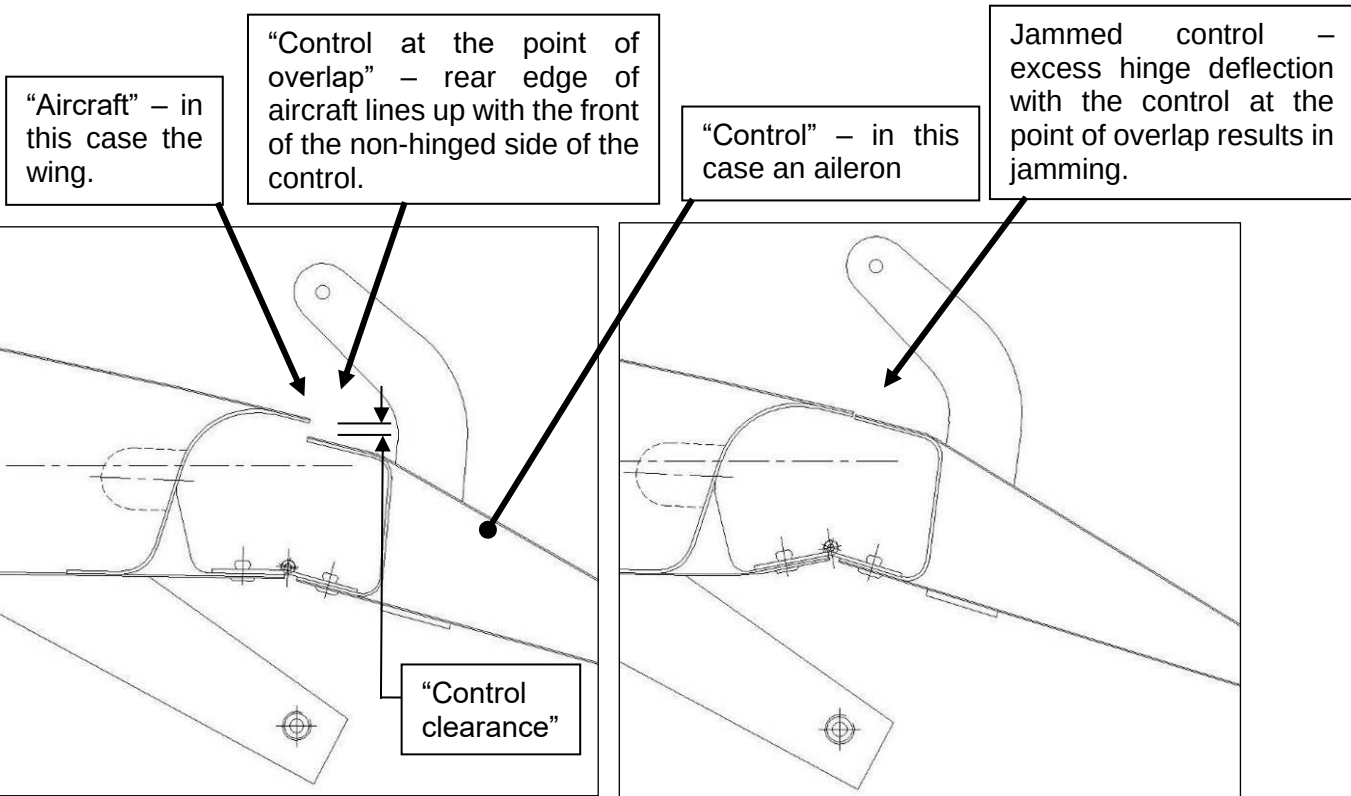

Figure 19 – Normal and Jammed Control Illustration (all J-Series)
- In Figure 19 several terms are defined. This is provided to clarify the statements given in the remainder of this inspection.
- **Aircraft** – This refers to the fixed part of the aircraft immediately in front of the controls. In particular it refers to the point indicated in Figure 19, where the control will hit the aircraft if a jam occurs.
- This inspection is to check if the controls are configured in such a way that there is a point of overlap as shown in Figure 19. At noted above the point of overlap is the critical point at which severe control jamming becomes possible.